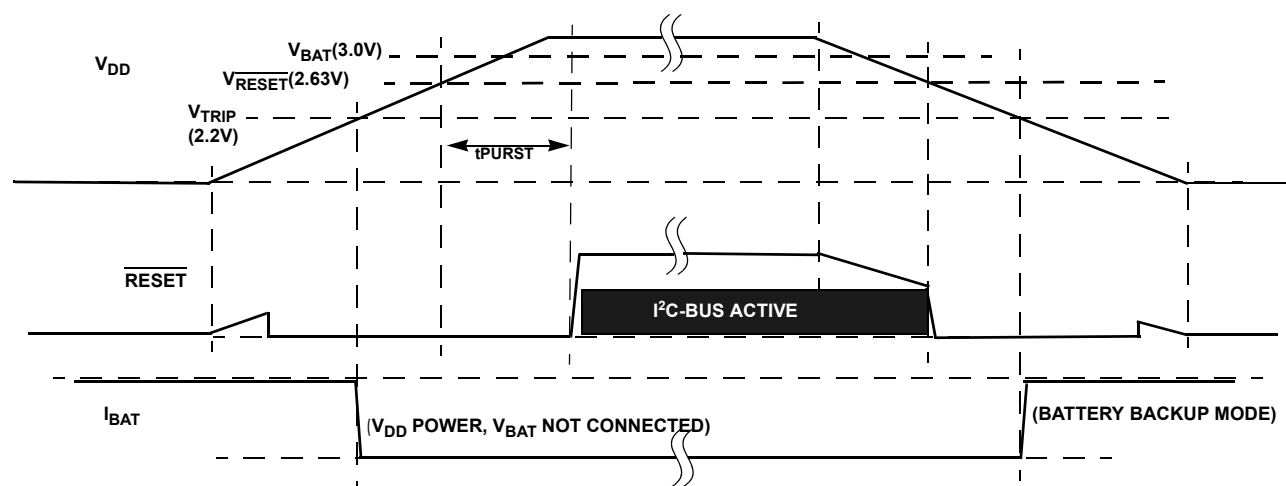

FIGURE 29. EXAMPLE RESET OPERATION IN MODE A OR C
- Mode A - In this mode, selection bits indicate a low V_{DD} switchover combined with I²C operation in battery backup mode. In actuality the V_{DD} will go below $\overline{V_{RESET}}$ before switching to battery backup, which will disable I²C ANYTIME the device goes into battery backup mode. Regardless of the battery voltage, the I²C will work down to the $\overline{V_{RESET}}$ voltage (see Figure 29).
- Mode C - In this mode, the selection bits indicate a low V_{DD} switchover combined with no communications in battery backup. Operation is actually identical to Mode A with I²C communications down to $V_{DD} = \overline{V_{RESET}}$, then no communications (see Figure 29).